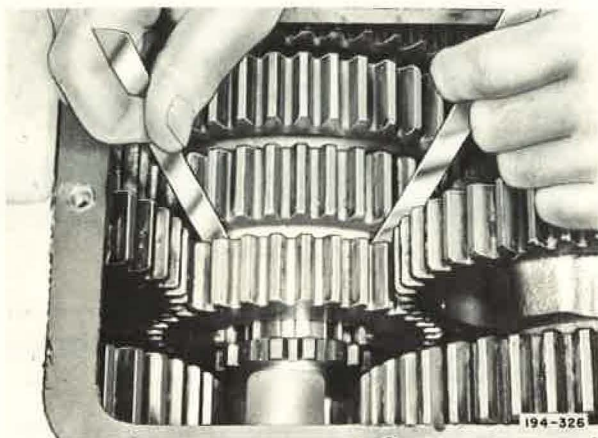

Figure 38. Checking Mainshaft Gear End-Play
22. With two feeler gages, check between third speed washer and fourth speed gear for recommended end-play. See Figure 38. Refer to "Screw Torques and Adjustment Chart" for selective thrust washers to obtain recommended end-play.